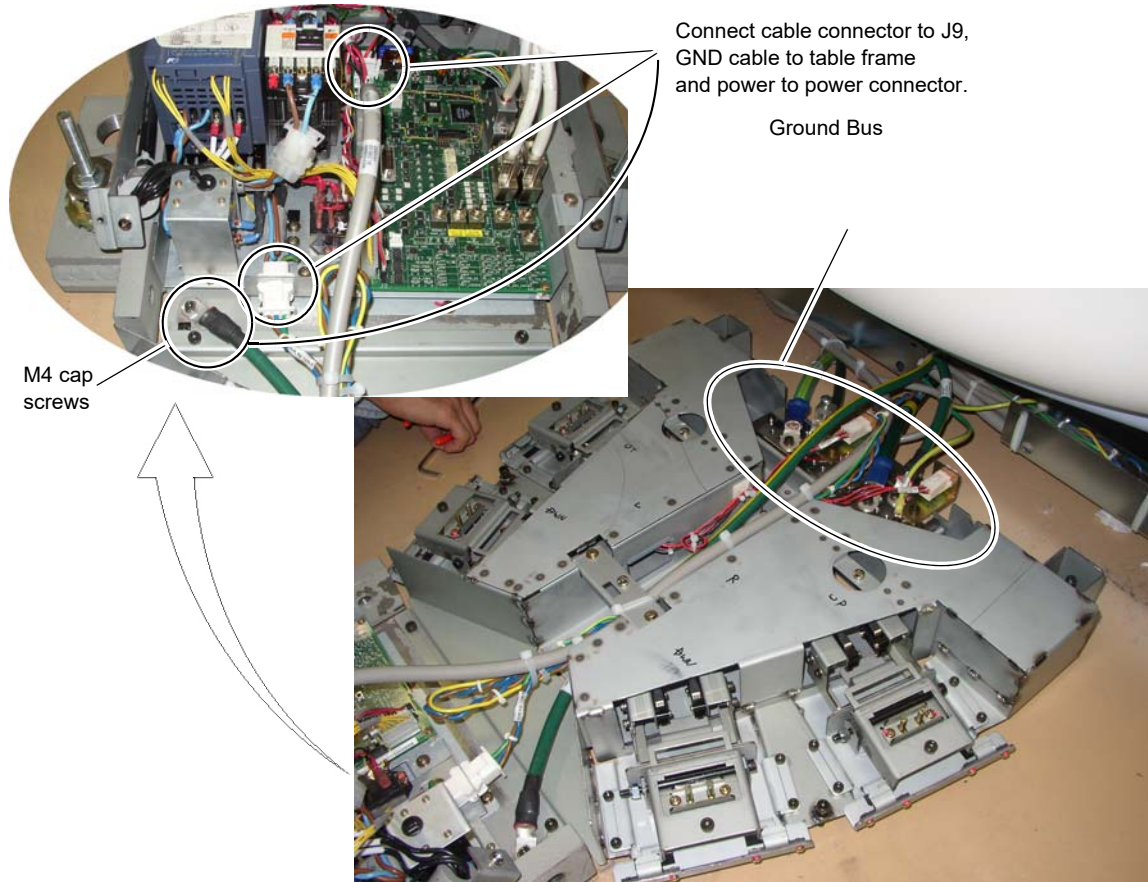

Figure 1-70 Footswitch Assembly Cable Wiring
- 7.) Cut the tie-wraps from around the cables in the gantry base and route the power cables from the gantry as shown in Figure 1-70.